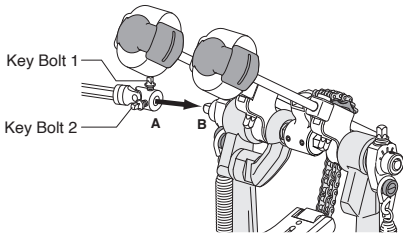

Fig.12
Connect the ends of the Drive shaft (A) to the short extensions (B) on the Main Pedal (Fig.12). Tighten the Key Bolts with a Tuning Key in order of the top (Key Bolt 1) and then the side (Key Bolt 2) and secure.